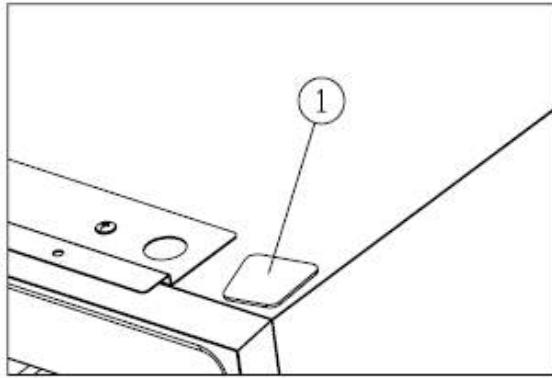

Figure 4
- ❖ Install the germinal lid①.[Figure 4]